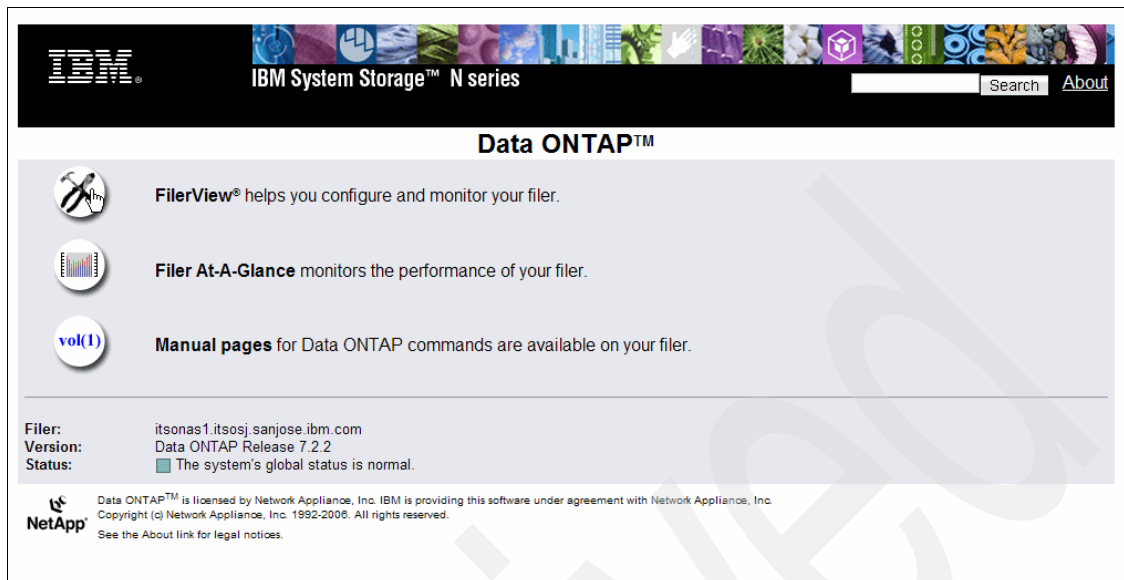
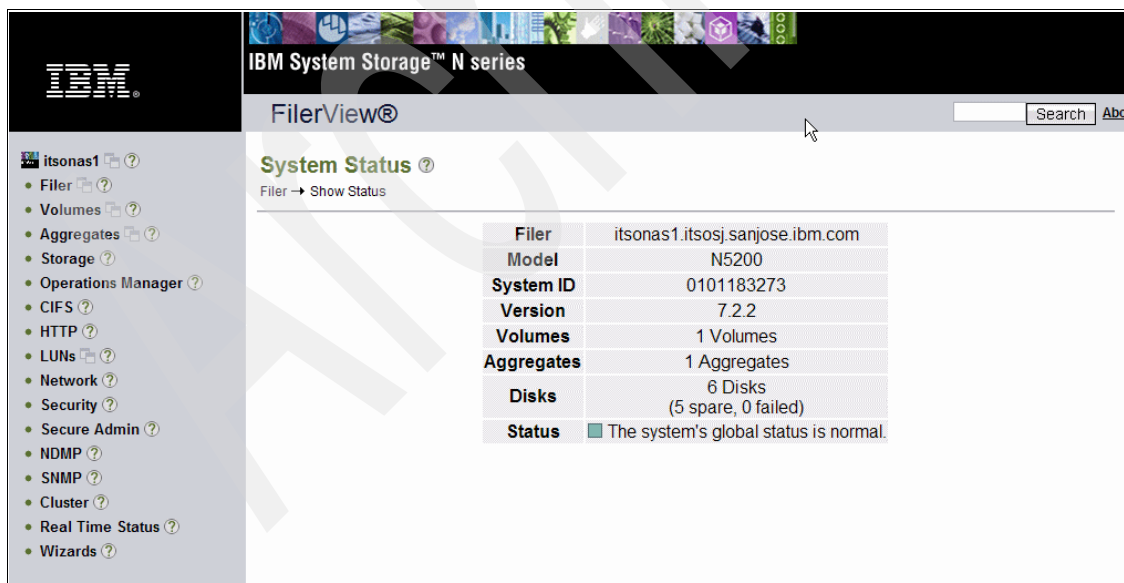

Figure 7-2 Welcome window
Figure 7-3 FilerView - System Status
3. Open the FilerView as, shown in Figure 7-2 on page 203 and Figure 7-3 on page 203.
- Click **FilerView**. The first window of the FilerView with system status is displayed, as shown in Figure 7-3.